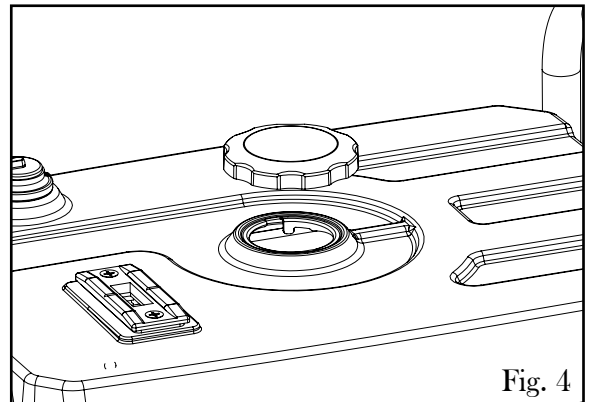

Fig. 4
2. Unscrew the fuel cap and set it aside (Fig. 4). **NOTE:** The fuel cap may be tight and hard to unscrew.